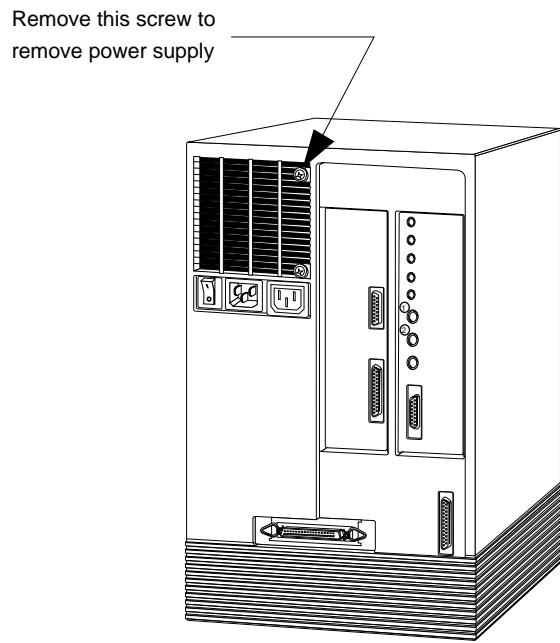

Figure 6-32 Screw that Secures the Power Supply
- Face the back of the main unit.Locate the screw on the back of the power supply, as shown in Figure 6-32.